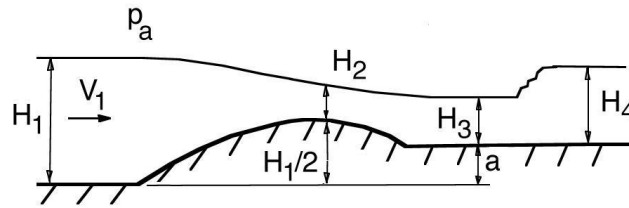

Figure P10.54
10.54 Water flows steadily and smoothly over a bump in an open-channel flow of constant width, as shown in Figure P10.54. The Froude upstream of the bump is F_1 , and at the point of minimum channel depth the Froude number $F_2 = 1$. Downstream of the bump the channel bottom has risen by an amount a , and the water has a depth of H_3 . Further downstream, there is a stationary hydraulic jump where the downstream water depth is H_4 . If $H_1 = 2H_2$ and $F_3 = 2$,